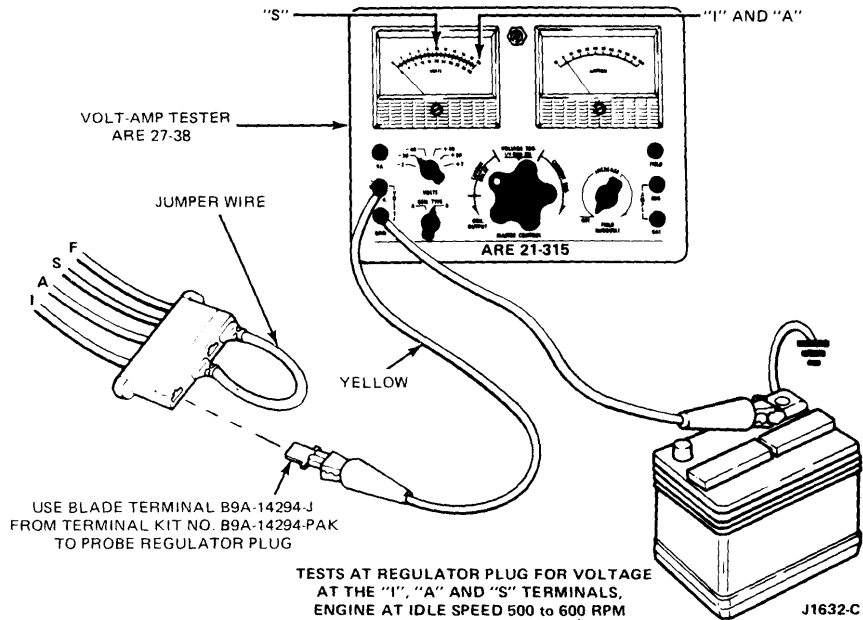

FIG. 3 Regulator Plug Voltage Tests
- If the voltmeter reading does not increase (one volt), check for the presence of battery voltage at the alternator BAT terminal and the regulator A terminal (Fig. 3). Repair the wiring if no voltage is present at these terminals, and repeat the Voltmeter Test Procedure.
1. Connect the positive lead of the voltmeter to the S terminal of the regulator wiring plug (Fig. 3). Then, turn the ignition switch to the ON position. Do not start the engine.